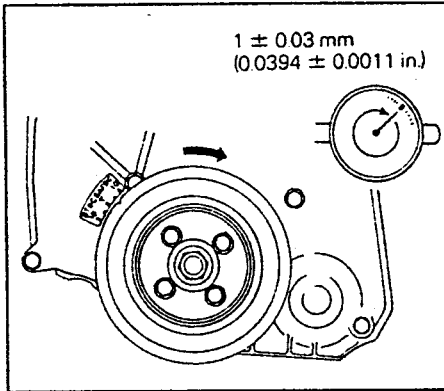

Fig. 15.41. — Rotate the crankshaft in its normal direction of rotation to the 9° mark on the timing scale and check the dial gauge reading.
- Turn the crankshaft in normal direction of rotation until the notch in the crankshaft pulley is opposite the 9° after top dead centre mark (Fig. 15.41). In this position read off the dial indicator reading. This should be between 0.97 - 1.03 mm (0.038 - 0.041 in.), with 1.0 mm (0.04 in.) the best value when adjustments are necessary.